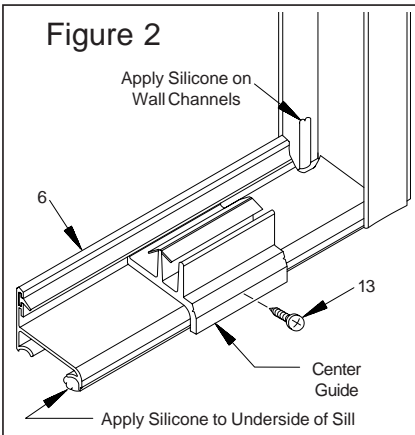

Figure 2
3. Cut bottom sill (6) 7/16" smaller than slider opening. Run a bead of silicone full length to the underside of sill (6) and apply silicone to inside of jamb where jamb meets tub. On inside of jamb, run a 1/4" bead of silicon 1 1/4" up the outside leg of wall jamb (See Figure 2). Set sill in place and press